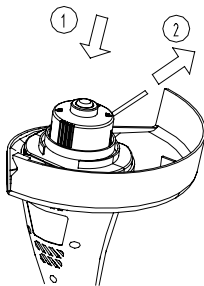

Fig 7
- (1). Press the spool button (FIG 7)
- (2). Pull more nylon wires to lengthen. (FIG 7)